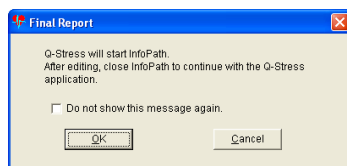

Figure 11-2: Example of the start InfoPath dialog box
4. In the dialog box (Figure 11-2), click **OK** to start InfoPath. You may receive a warning from InfoPath. Ignore the warning and click **OK** in the warning dialog box.